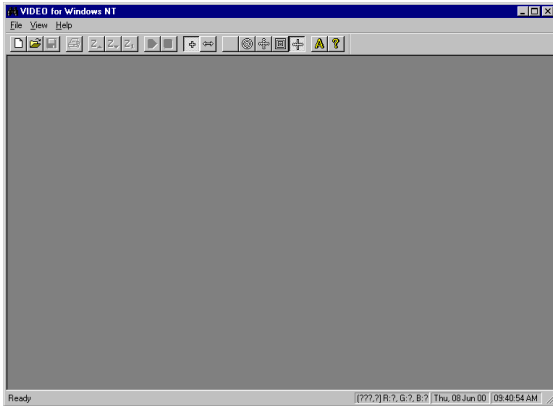

Figure 4-3. Video program's main window
1. Double-click the Video (binoculars) icon (recall Figure 4-2) to start the Video program and display the main window (Figure 4-3).